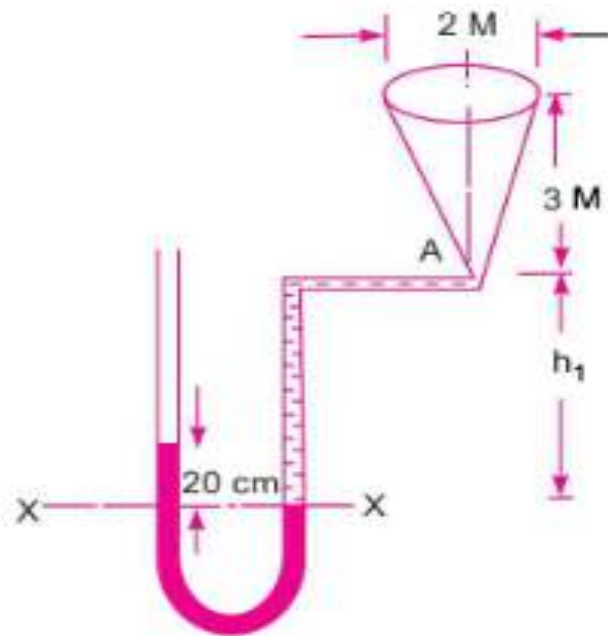

Fig. 2.12
2. Fig. 2.12 shows a conical vessel having its outlet at A to which a U-tube manometer is connected. The reading of the manometer given in the figure shows when the vessel is empty. Find the reading of the manometer when the vessel is completely filled with water.